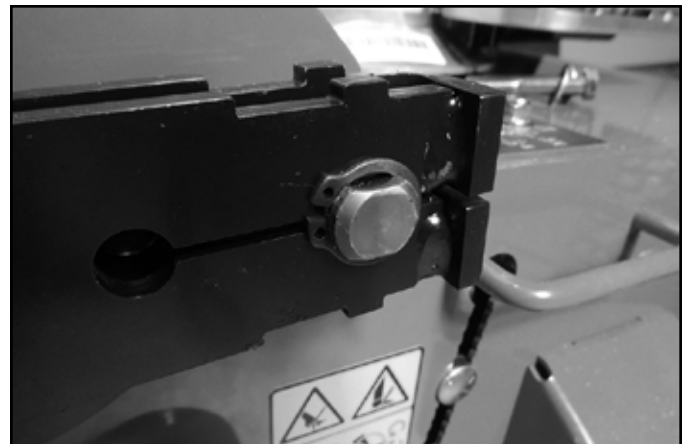

Fig. 072 PS snap ring
3. Remove the snap ring from the pivot shaft (Fig. 072).